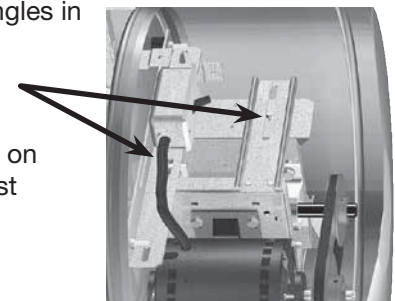

Figure 9
9. Belt tension can be adjusted by loosening four fasteners on the drive frame, see Figure 9. The motor plate slides on the slotted adjusting arms and drive frame angles in the same manner.